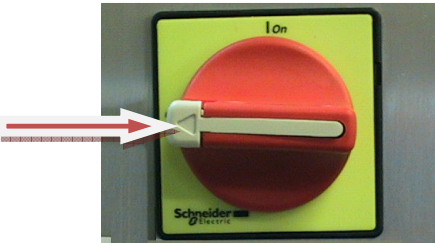
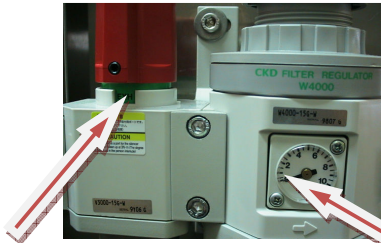

fig 36
fig 37
- First of all, take away the alimentation of electrical power from general panel (fig. 36), and the pneumatical alimentation (fig. 37) "INACTIVE MACHINE"
- do collocare the main selector in “o” (present in the panel of general electrical panel fig. 36), do close it in this position with a padlock whose keys must be hold by the responsible of the maintenance.
- do disconnect the pneumatical alimentation towards the machine; under the tap the writing “EXH” must be present and the pression on the manometer at zero (fig. 37).